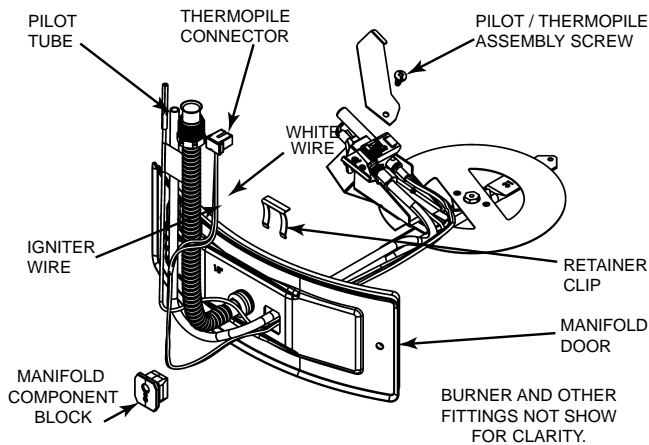

FIGURE 25
3. Remove the screw securing the pilot/thermopile assembly to the pilot bracket and keep for reuse later (Figure 25).
4. Lift the retainer clip straight up from the back of the manifold component block (using a flat-blade screwdriver), then remove the manifold component block from the manifold door (Figure 25). Important: Be careful not to bend or alter the position of the pilot tube. It will be used as a bending template for the new pilot assembly. Note the placement/order of the wires in the manifold component block.
7. Route the new pilot tube, igniter wire and thermopile wire through the opening in the manifold door. See Figure 25.